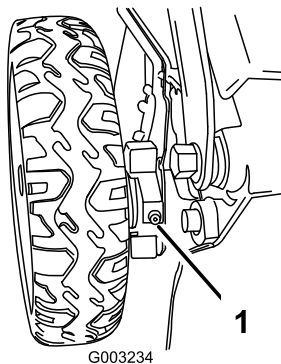

Figure 51
1. Wipe the grease fittings just inside the rear wheels with a clean rag (Figure 51).